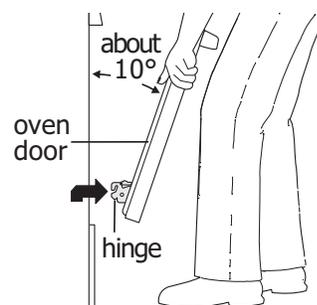
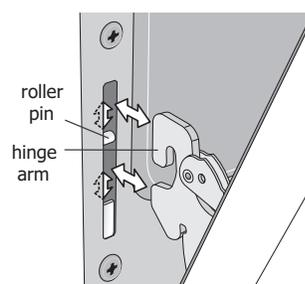

Figure 14: Holding door for removal
Figure 15: Replacement and location of hinge arm and roller pin
The interior oven lights are located at the rear of the oven cavity and are covered with a glass shield. The glass shield must be in place whenever the oven is in use (See Figure 14).
3. Firmly grasp both sides of oven door along the door sides. Do not use the oven door handle (See Figure 14).
4. Close the door to approximately 10 degrees from the door frame (See Figure 14).
5. Lift the oven door hinge arms over the roller pins located on each side of the oven frame (See Figure 15).
1. Firmly grasp both sides of oven door along the door sides. Do not use the oven door handle (See Figure 14).
2. Holding the oven door at the same angle as the removal position, seat the hook of the hinge arm over the roller pins located on each side of the oven door frame (See Figure 14 and Figure 15). The hook of the hinge arms must be fully seated onto the roller pins.